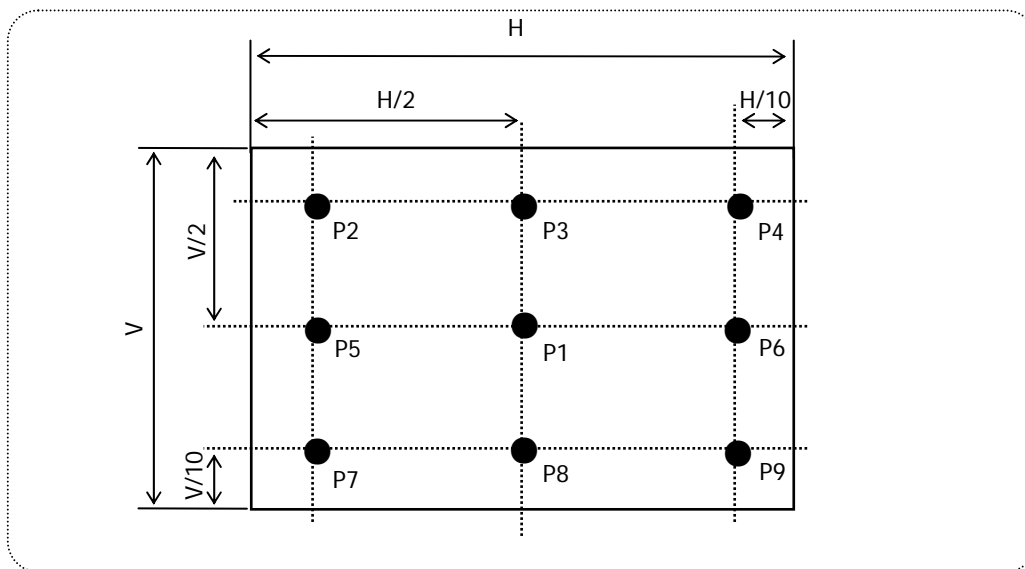

FIG. 2 Measure Point for Luminance
2. Surface luminance( $L_{WH}$ ) is luminance value at No.1 point across the LCD surface 50cm from the surface with all pixels displaying white. For more information see FIG 2.
For more information see FIG 2.